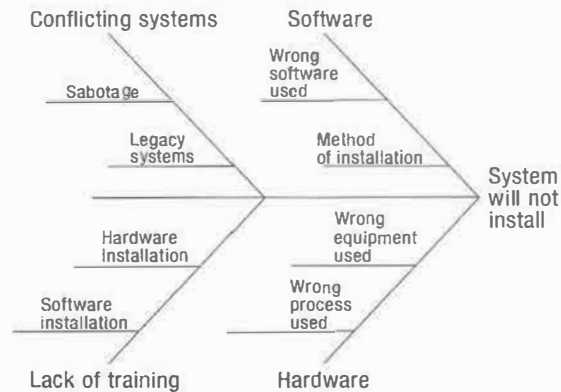

FIGURE 10.7 Cause-and-effect diagram
A team can use cause-and-effect diagrams (see figure 10.7) to confirm that policies and procedures are being followed and metrics are being used correctly, and that the procedures were adequate to produce the required level of quality in project deliverables.
Root cause analysis in Manage Quality seeks to identify the processes, procedures, and policies within the plan that may not work or that may need adjustment. Identifying the root cause of a quality problem helps the team to prevent it from recurring. Cause-and-effect diagrams (as shown in figure 10.7) help in root cause analysis.
- **Cause-and-effect diagrams** In Manage Quality, we discussed the application of the cause-and-effect diagram to determine the root cause of quality issues relating to plans, processes, or procedures. In Control Quality, this tool can be used to look backward at what may have contributed to defects that have occurred as well as to analyze the impact of defects on the quality and acceptability of a deliverable. Look back to figure 10.7 to review this concept.